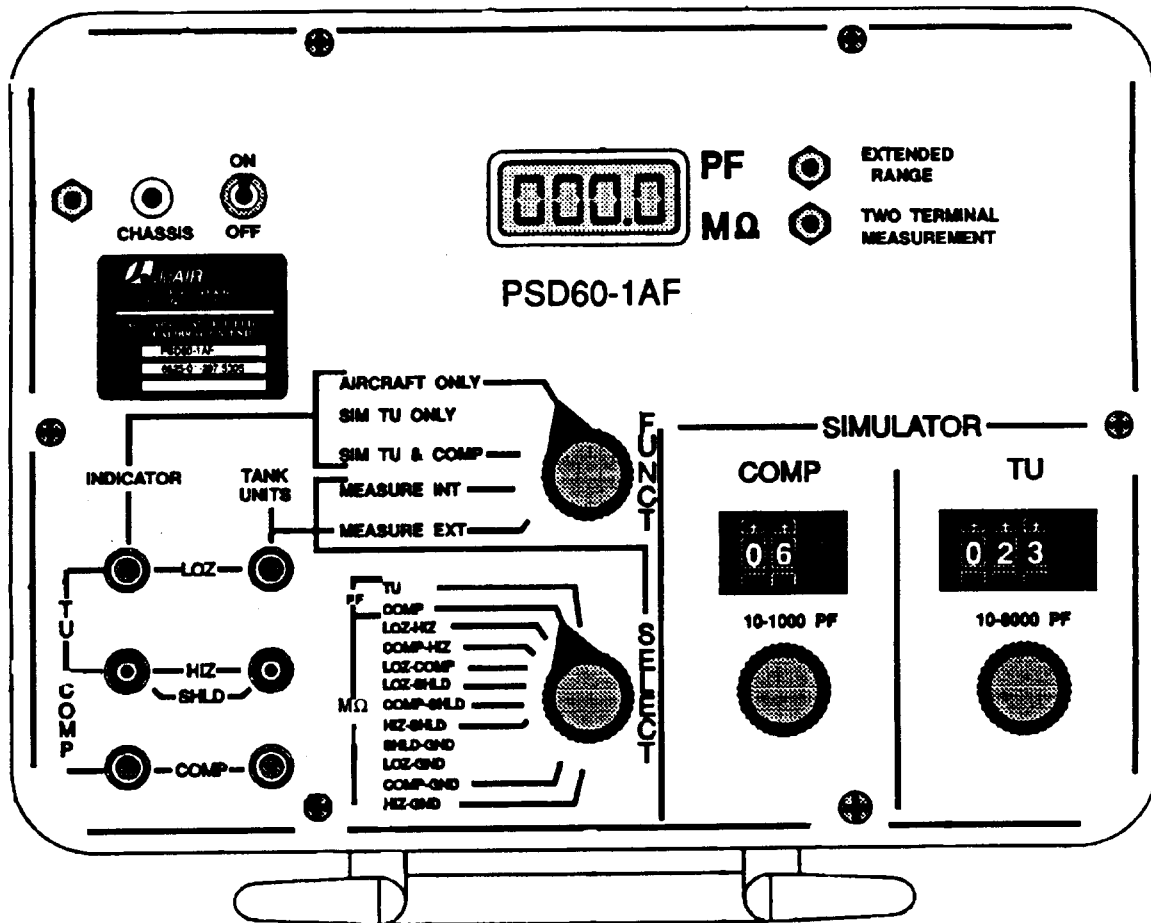

Figure 1. Front panel.
7. Equipment Setup. Set **ON-OFF** power switch to **ON** (fig. 1) position and allow 5 minutes for TI to warm up and stabilize.